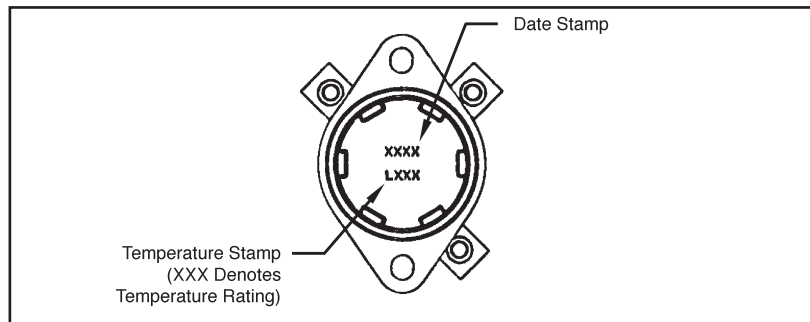

Figure 1 - New switch detail
2. The new switch is shown from the sensor side as seen in Figure 1. This side shows the date code stamp and temperature rating stamp. *See Table 1*